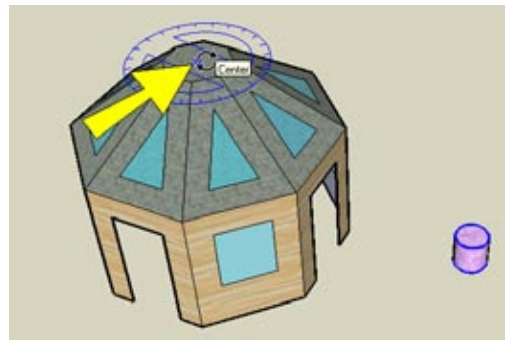

Figure 1-62
2. Select the planter, activate Rotate, and place the center of rotation at the center of the building (Figure 1-62).